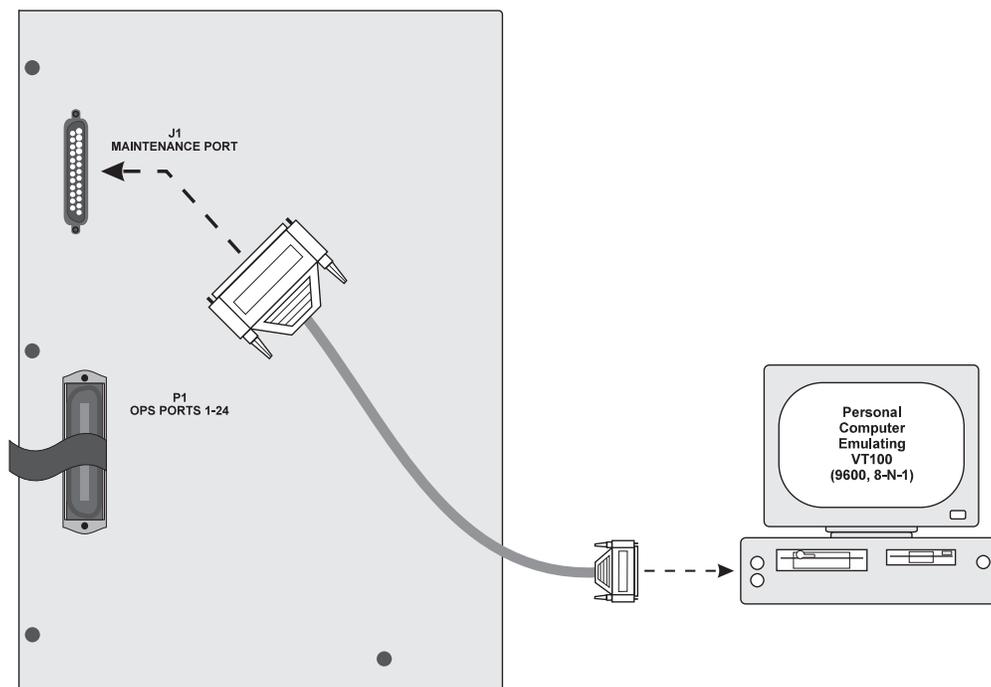

Figure 3-1. VT100 Terminal Connected to Maintenance Port J1
1. Connect a VT100 terminal to the maintenance port (J1) located on the left panel of the System 920i enclosure. Figure 3-1 illustrates the location of the maintenance port. (For more information about maintenance port connection and cabling refer to Appendix D, "Maintenance Port Connections.")